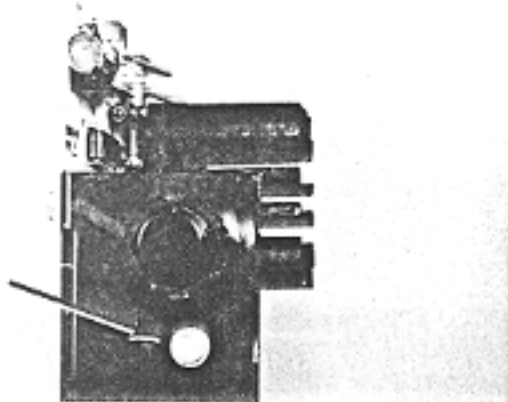

FIGURE 13
02.22 Unwrap the PBBU. Remove and save the screw located in the mounting bracket (Figure 13).